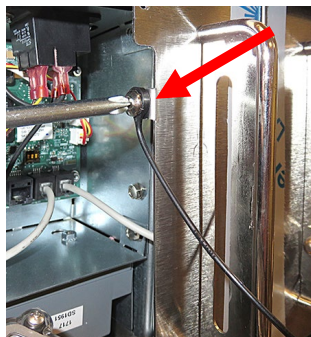

Figure 17
9. Disconnect the lanyard tether from the frame (see Figure 17) to remove the controller.